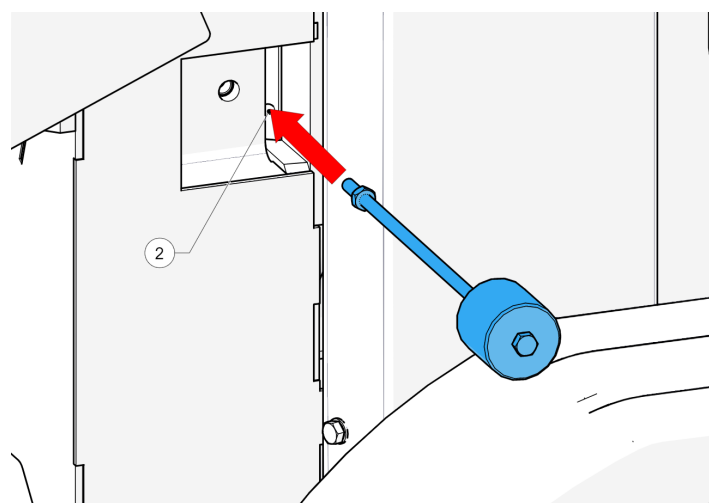

Figure 59 - Slide hammer
8. Insert a suitable slide hammer into the M8 hole (2, Figure 59).